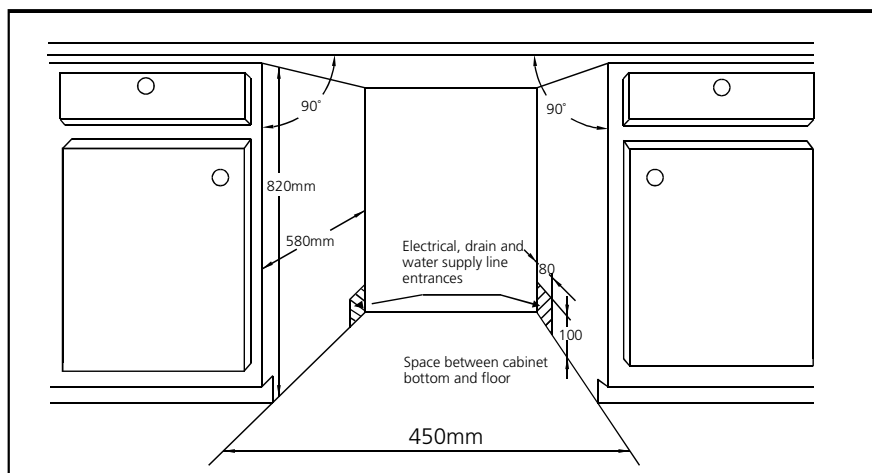

FIGURE 1
1. Choose a place near the sink to facilitate the installation of inlet and drain hoses (see figure 1).